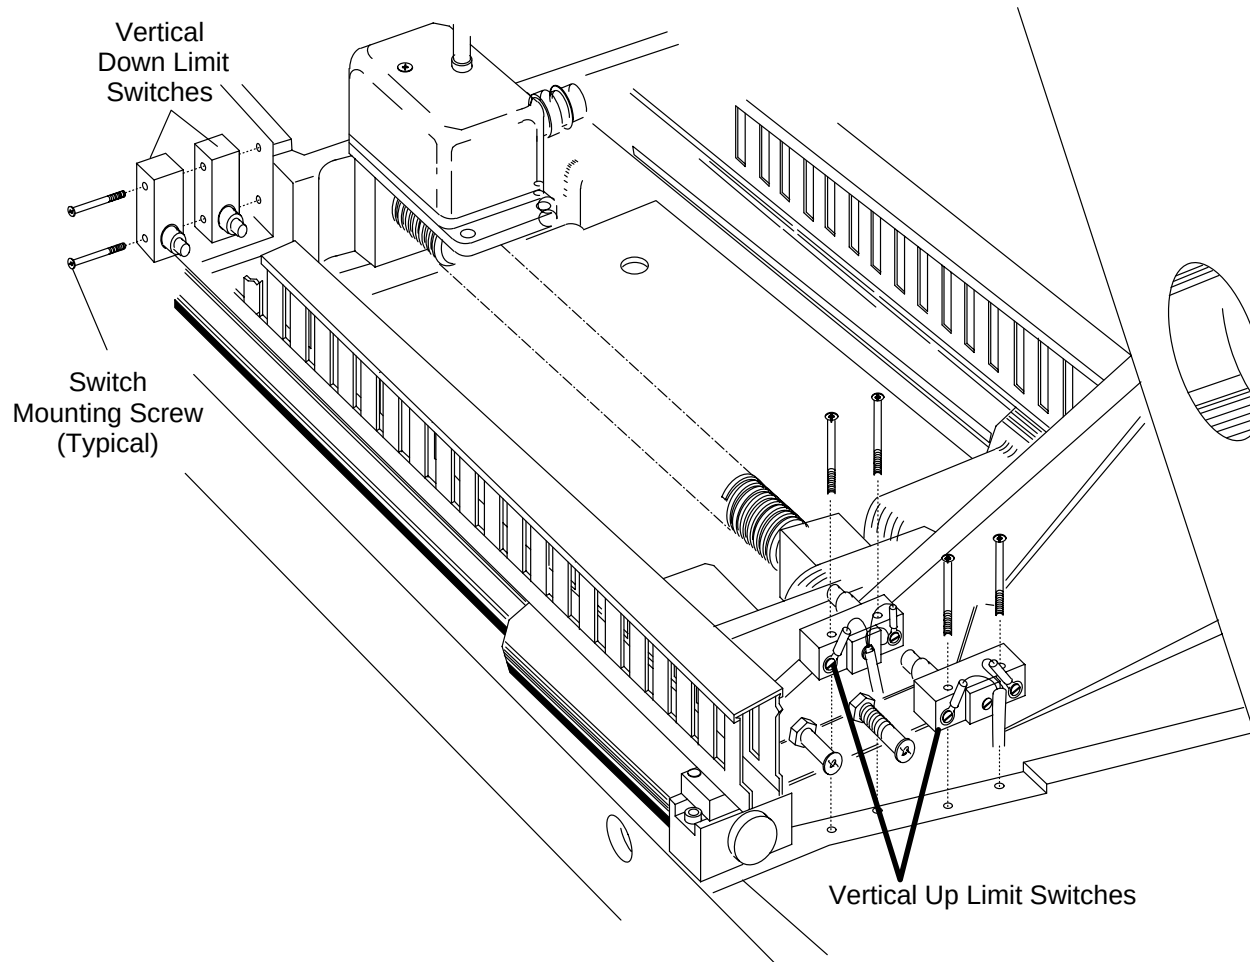

FIGURE 219 Vertical Limit Switches
7. Remove the two Switch Mounting Screws. See Figure 219.